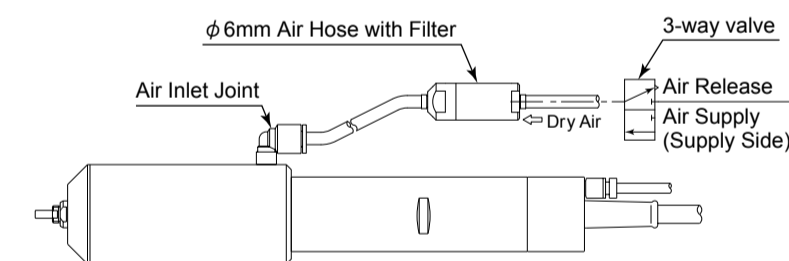

Fig. 3
- Connect the provided ϕ 6mm Air Hose with filter and 3-way valve to Air Inlet Joint shown in Fig. 3.